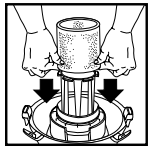

FIGURE 24
41. With tank cover in an upside down position, slide foam sleeve down over lid cage pulling until foam sleeve completely covers lid cage. **FIGURE 24.**